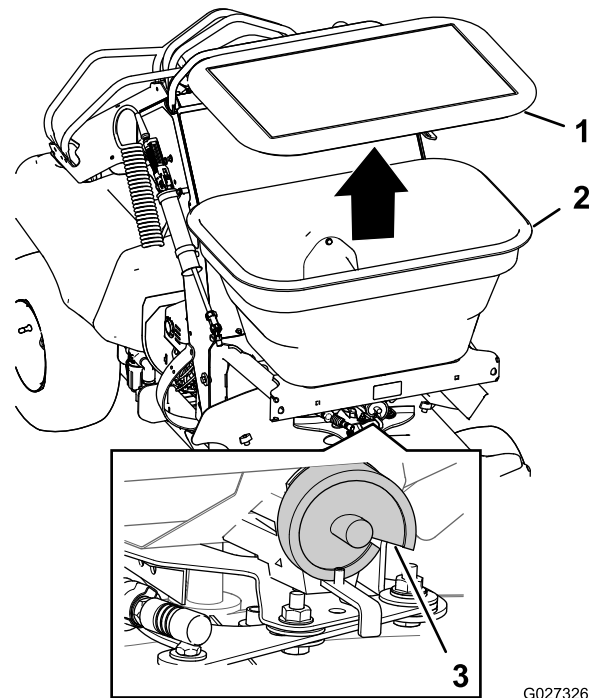

Figure 24
- Use the Spreading Charts \(page 29\) to determine the setting for the drop-rate cam (Figure 24).
- Remove the cover from the hopper, add the material that you are spreading, and install the cover onto the hopper (Figure 24).